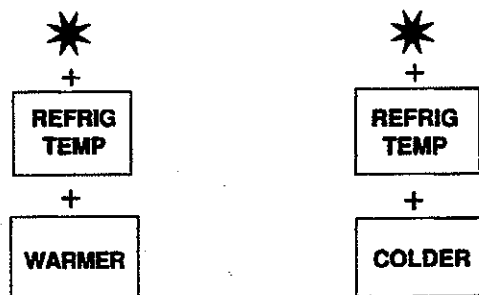

Figure 11
- a. To set or change refrigerator temperature, press START pad (*); press REFRIG TEMP; press WARMER or COLDER to raise or lower temperature setting *one* level at a time. Holding down WARMER or COLDER pads raises or lowers temperature *more than one* level at a time. See Figure 11.